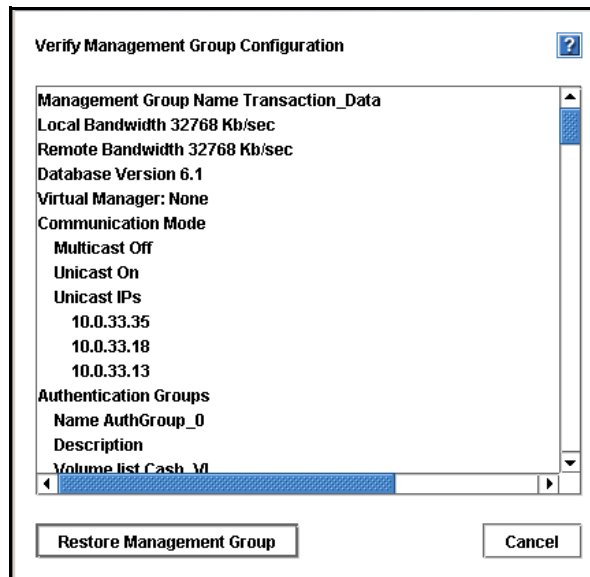

Figure 143. Verifying the Management Group Configuration
4. Select the file and click Restore Management Group. The Verify Management Group Configuration window opens, shown in Figure 143.